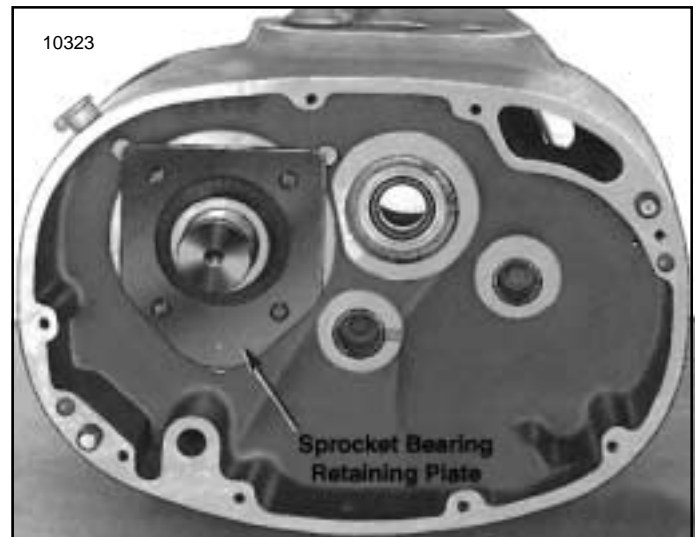
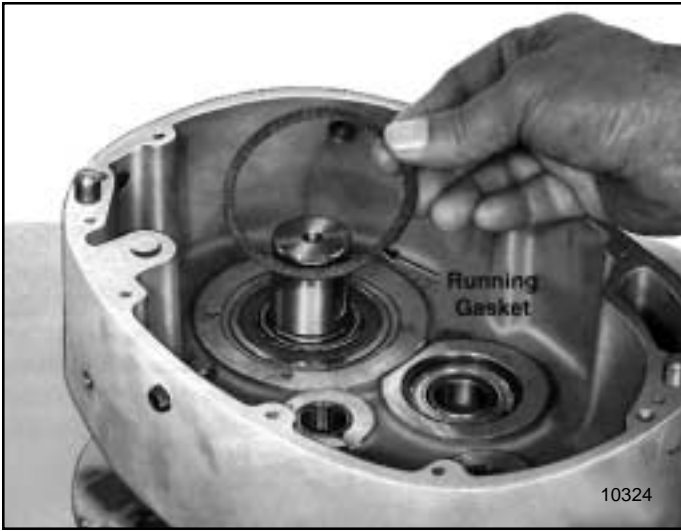

Figure 7-11. View of Sprocket Bearing Retaining Plate
Figure 7-12. Removing Sprocket Bearing Ring Gasket.
(2) Unscrew four fillister head machine screws securing sprocket bearing retaining plate and remove plate (fig. 7-11). Remove and discard ring gasket from groove around bearing or remove seal disc (fig. 7-12).